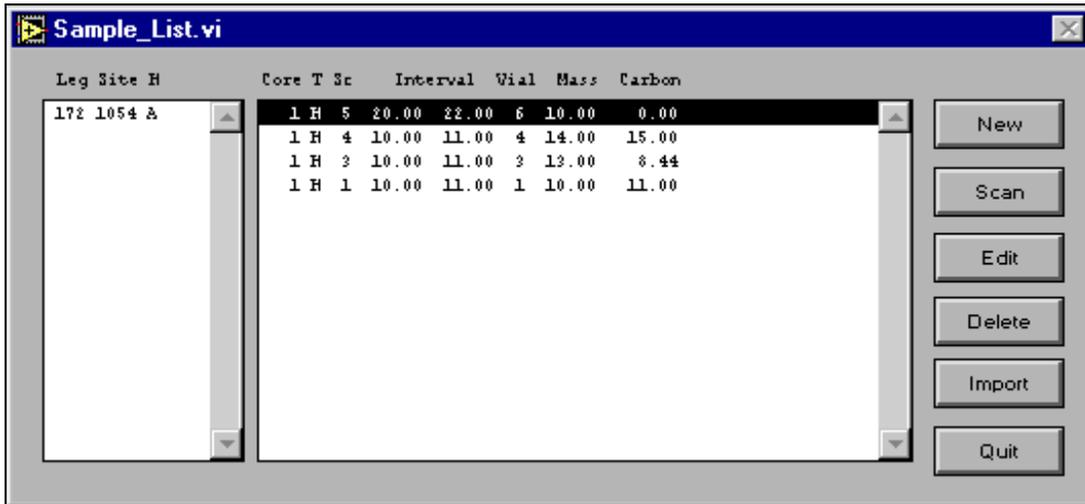

Figure 9. The “Sample_List” window.
| Figure 9. The “Sample_List” window. | 6 |
1. From the main menu, click on the **Sample** button. This opens the “Sample_List” window (see Figure 9).